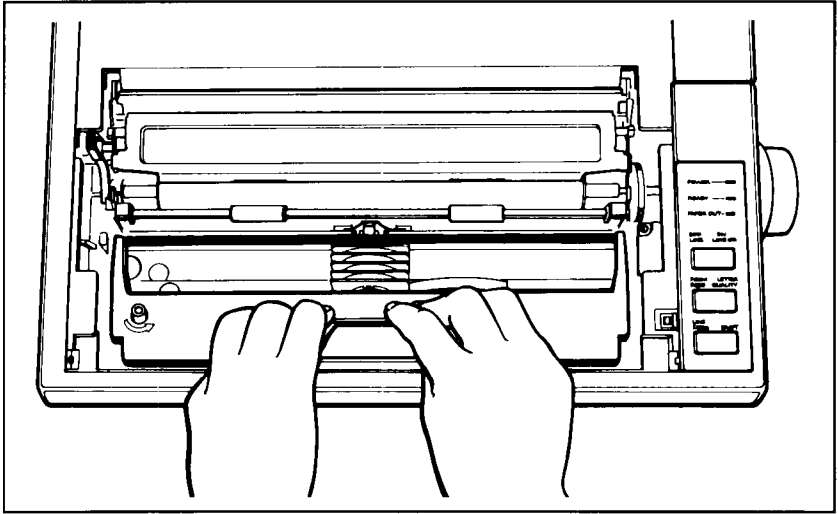

Figure 1-5. Loading the LQ-800 ribbon cartridge
3. For the LQ-800, hold the ribbon cartridge by the raised plastic fin on top of the cartridge; for the LQ-1000 hold the cartridge by the two plastic tabs. Lower the cartridge into the printer, guiding the two square pins on each end of the cartridge into the slots in the printer frame, as shown in Figures 1-5 and 1-6. Press firmly on each end of the cartridge to make sure the pins are firmly seated in the slots.